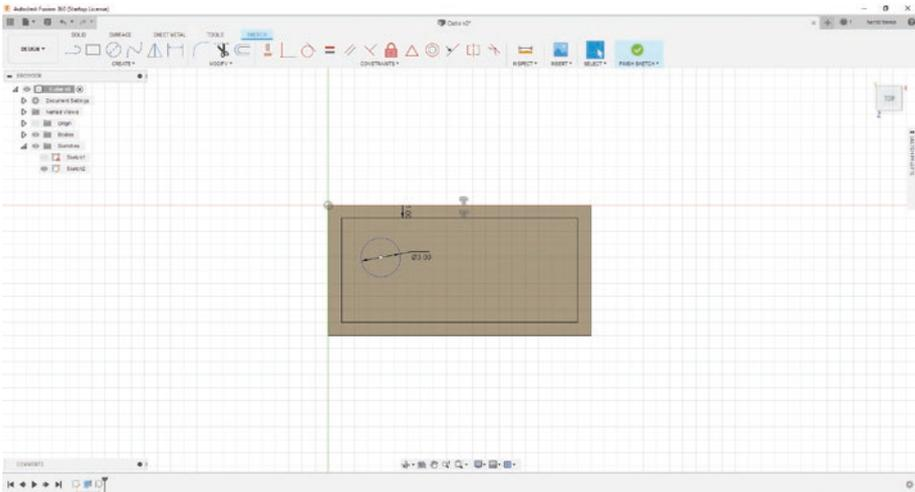

Figure 3-64. Add a dimension to the circle (3mm)
- Now you will notice the circle is not constrained; let's fix this. First, press the "D" key and select the circle's edge; type in 3mm. Press "Enter" when you are finished. See Figure 3-64.